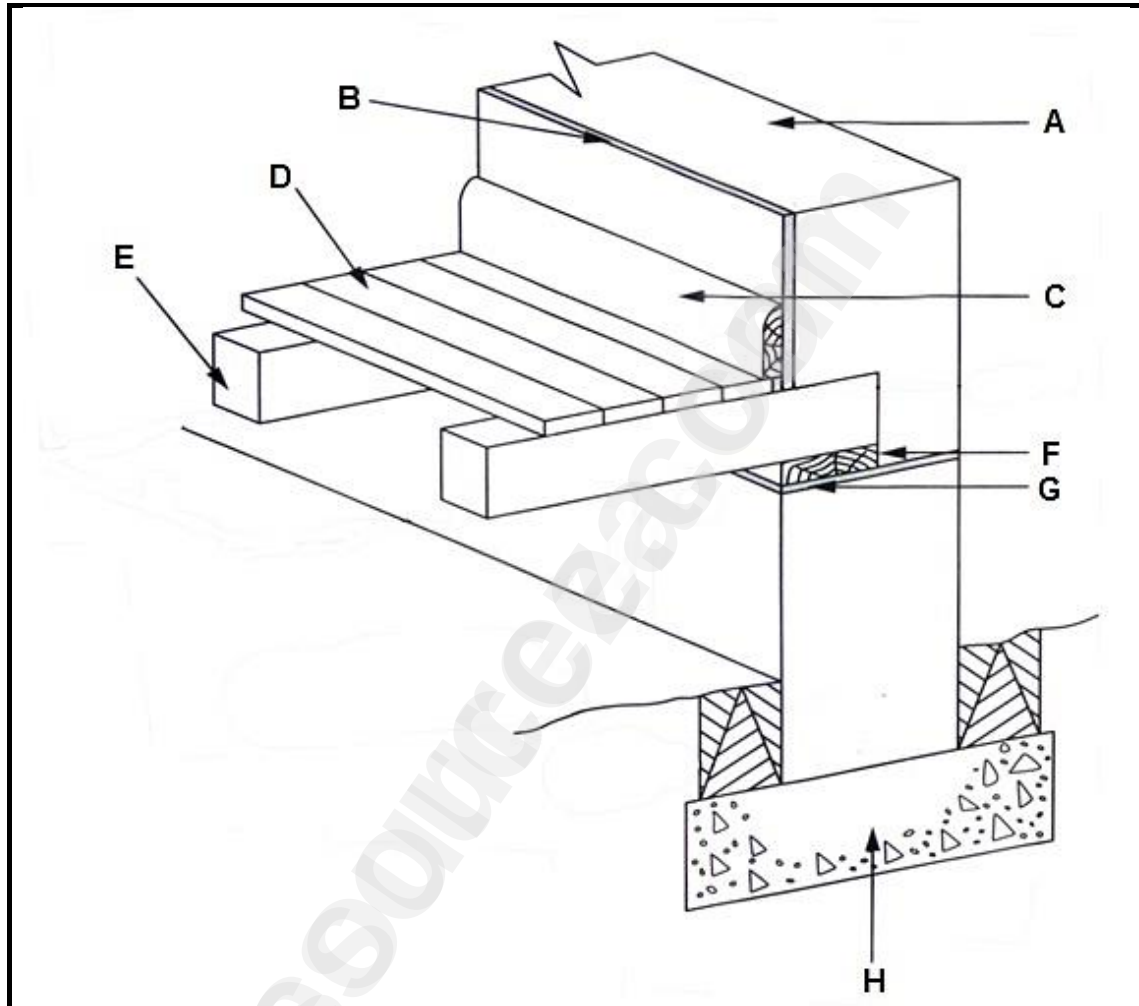

FIGURE 6.9
6.9 FIGURE 6.9 shows the construction detail of a suspended floor.